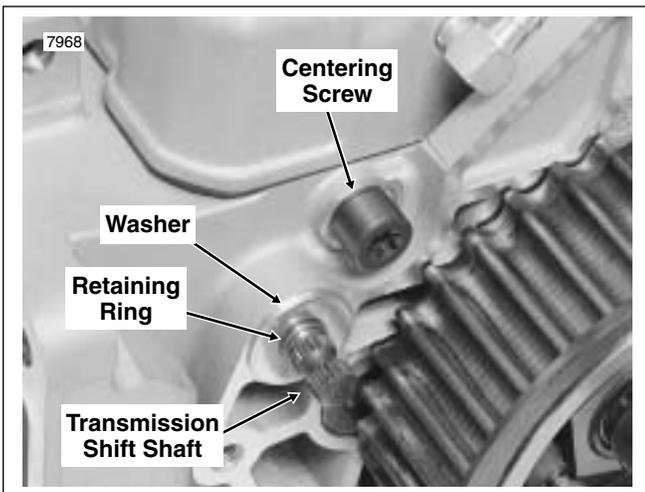

Figure 7-50. Shifter Pawl Centering Screw
- Remove the socket head screw from the shift arm. Remove the shift arm from the transmission shift shaft. Mark splines on transmission shift shaft and shift arm as they are removed to assist in assembly. See Figure 7-50.